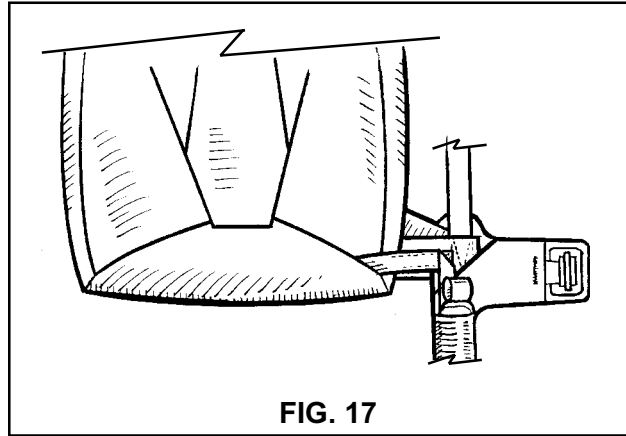

FIG. 17
18. Stuff the rolled pilot chute completely into the pouch, making sure that the handle sticks out the top for an easy grip (FIG. 17).